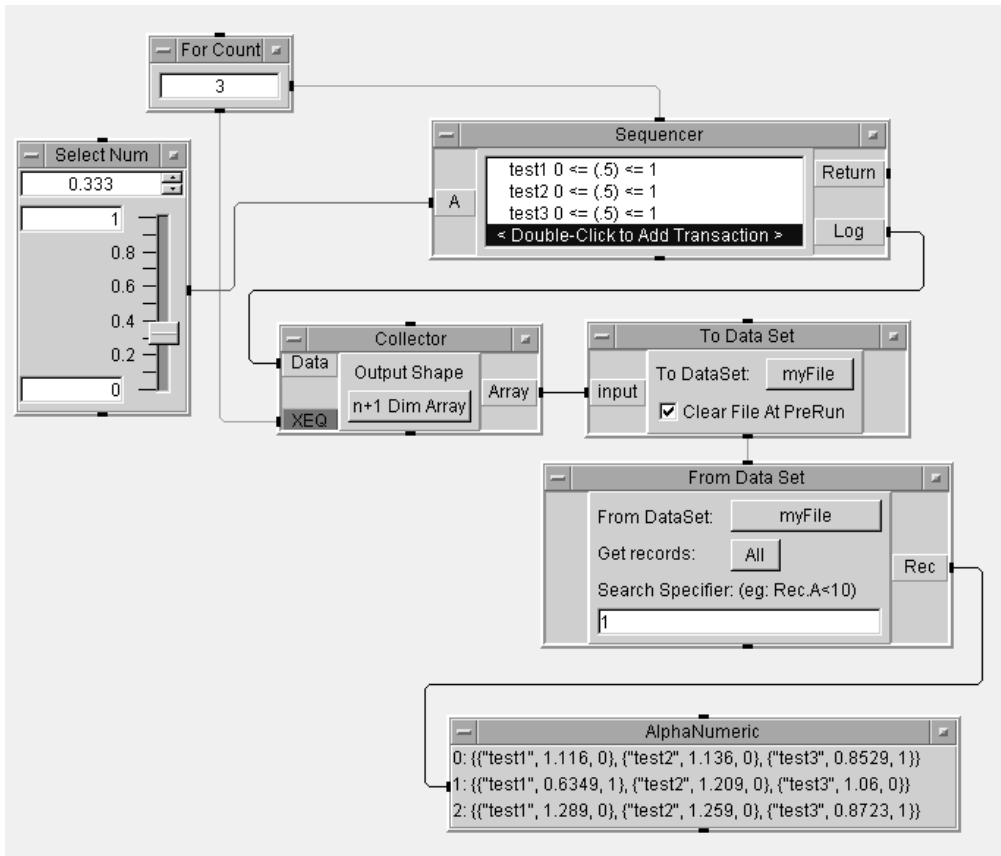

Figure 16.5. Storing Logged Data with To/From DataSet
Note: You do not necessarily need a Collector because you can append each run of the Sequencer to the end of the DataSet. It continues to be shown in Figure 16.5.
22. Modify this program to look like Figure 16.5; replace To File and From File with To Data Set and From Data Set; for the From Data Set object, change Get Records to All.